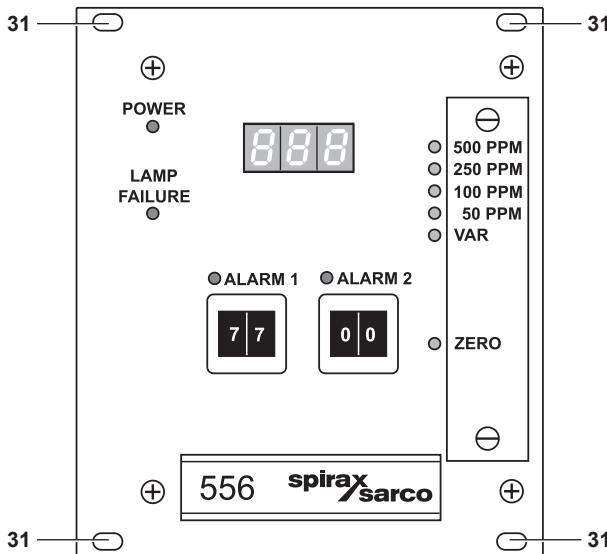

Fig. 9 Front view with screws
2. Fasten the four screws M2.5 x 11 (item 31, Figure 9) of the converter.